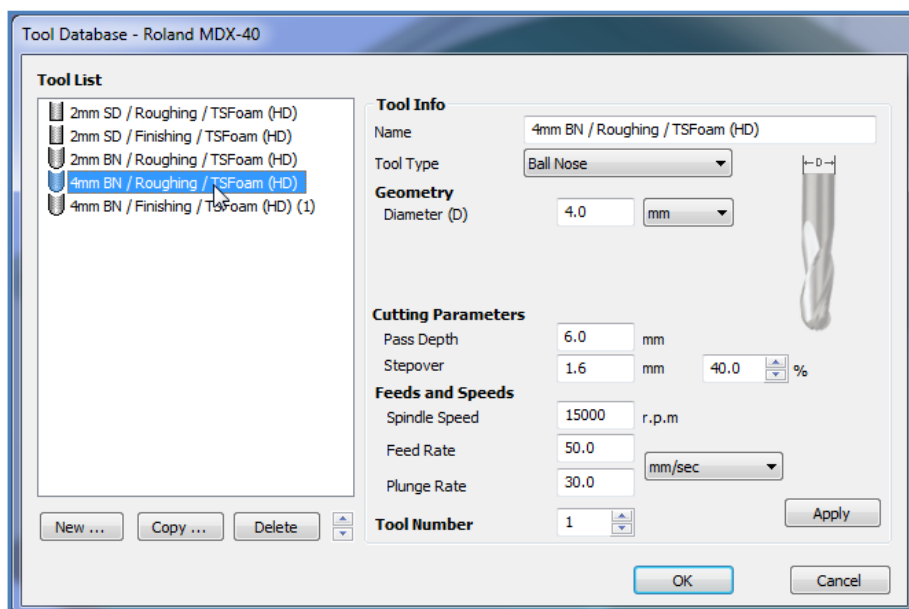

Figure 13
- Add the Tool information as shown in Figure 13.